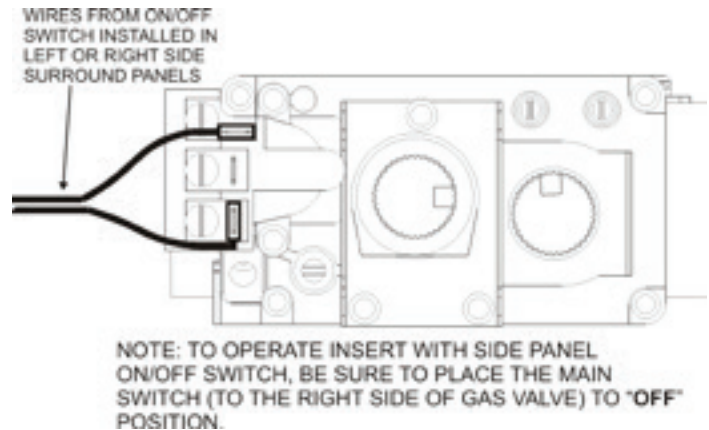

Figure 17
2. **Millivolt Valve** - Attach the flag terminal ends to the "TH/TP" and "TH" terminals on the front terminal block of the gas valve. **See Figure 17.**
- a. For millivolt valve connections, **see Figure 17.**
**See Figure 17.**